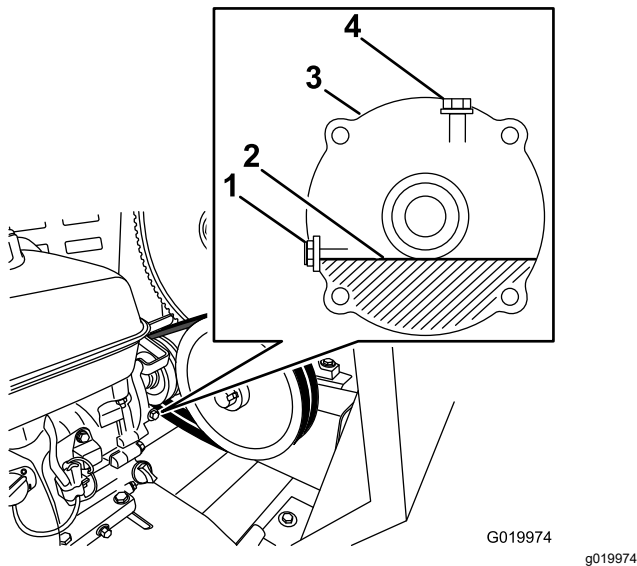

Figure 61
5. Locate the reduction case between the engine and the engine pulley (Figure 61).
7. Remove the oil-level-check bolt and washer from the oil-level port (Figure 61).
- A. Remove the filler bolt and washer from the filler port on the top of the reduction case (Figure 61).
- C. Install the filler bolt and the washer to the filler port of the reduction case, and tighten the filler bolt (Figure 61).
8. When the oil is level is flush with the threads at the bottom of the oil-level port, install the oil-level-check bolt and washer to the port, and tighten the bolt (Figure 61).
11. Slowly pour the specified oil into the fill port until the oil level is level with the threads at the bottom of the oil-level port (Figure 61).